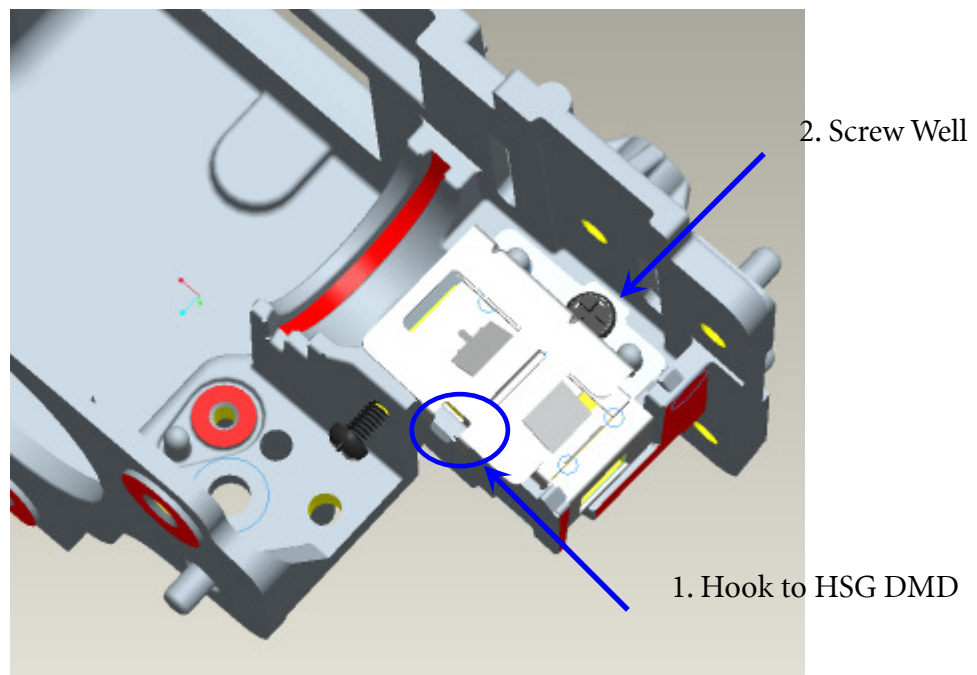

Fig. 1-4
- iii. Hook Clip LP to HSG DMD, and lock with screw well. (Fig. 1-4).
- i. Pre-assembly 2 adjusting screws. Criteria shown as Fig.1-4
- b. Refer to Fig. 1-4
- a. Those 2 Adjustment Screws must be released closely to the “Pre-assembly” positions first (Fig. 1-4).